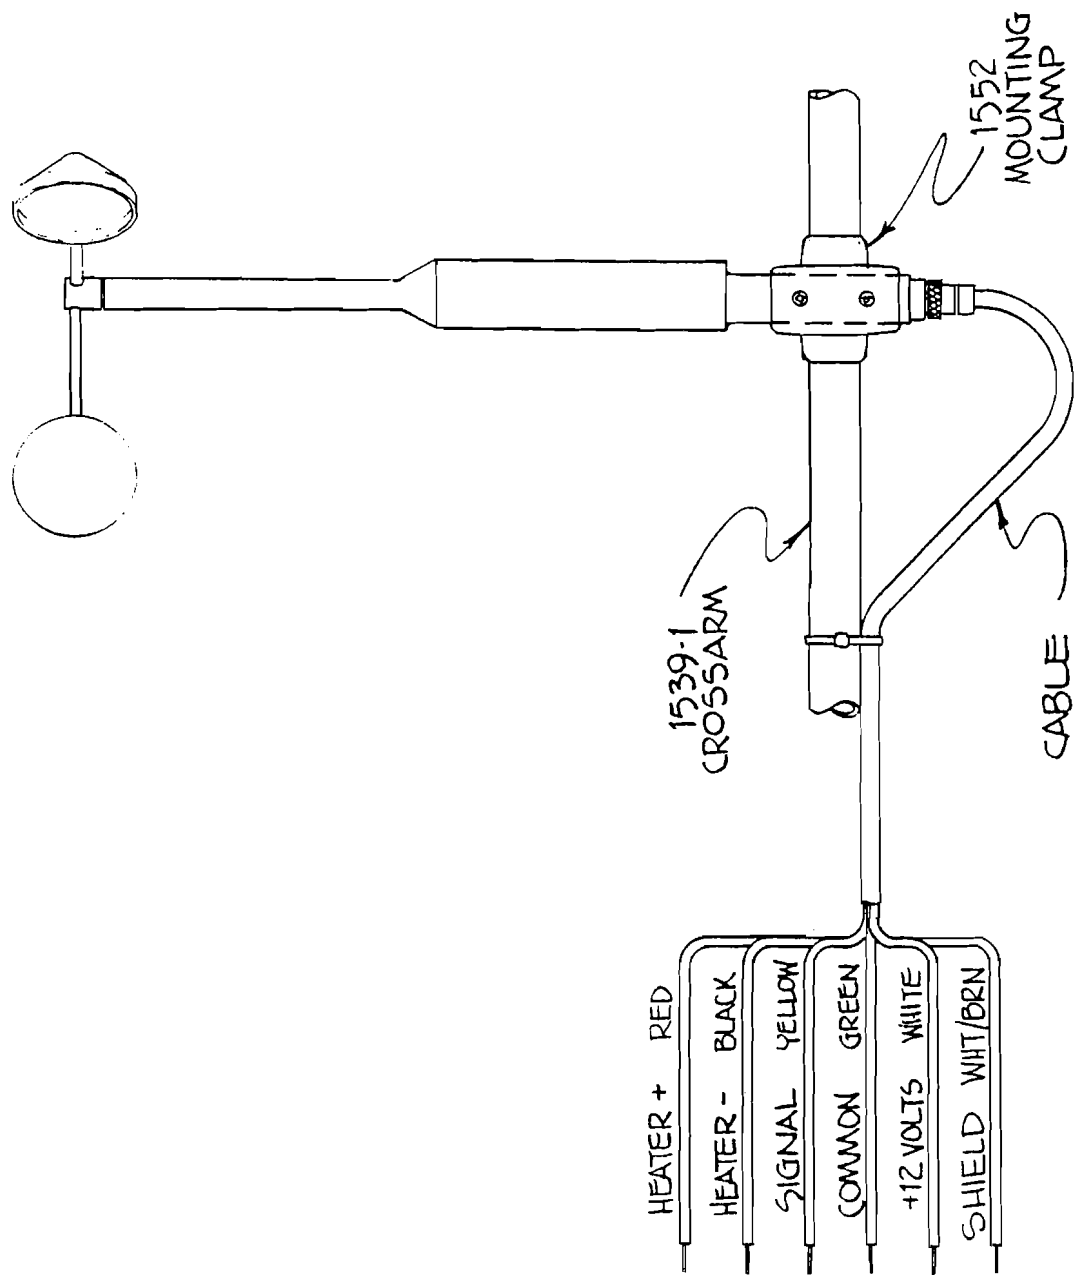

FIG. 2-1
- 2.5 Wiring. The cable assembly contains five wires. Typical wiring hookup is shown in Figure 2-1.